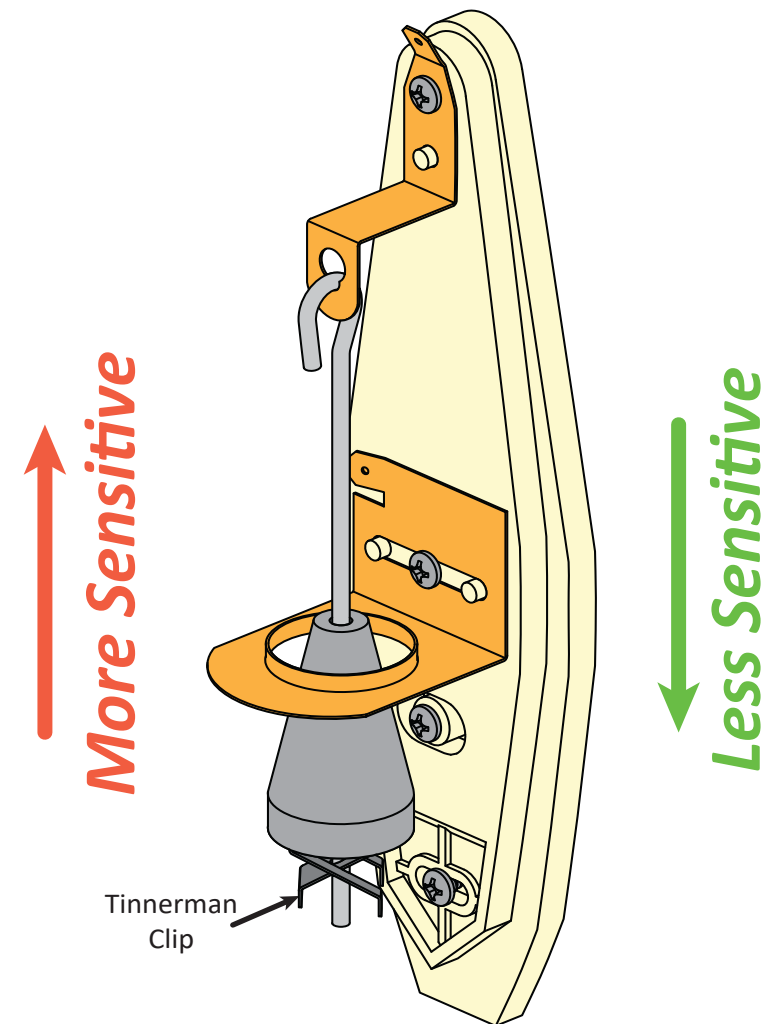

Figure 1-17. Plumb bob tilt assembly.
18) Locate the plumb bob assembly (figure 1-17), mounted to the left sidewall of the cabinet interior, near the front. Squeeze the ends of the tinnerman clip underneath the plumb bob weight, then slide it up or down to adjust the tilt mechanism to the desired sensitivity. Raising the weight higher up the hanger wire makes the tilt mechanism more sensitive; lowering the weight makes it less sensitive. Carefully lower the playfield and slide it straight back into the cabinet, ensuring that the two hanger brackets rest in the slots in the lockdown bar receiver channel.